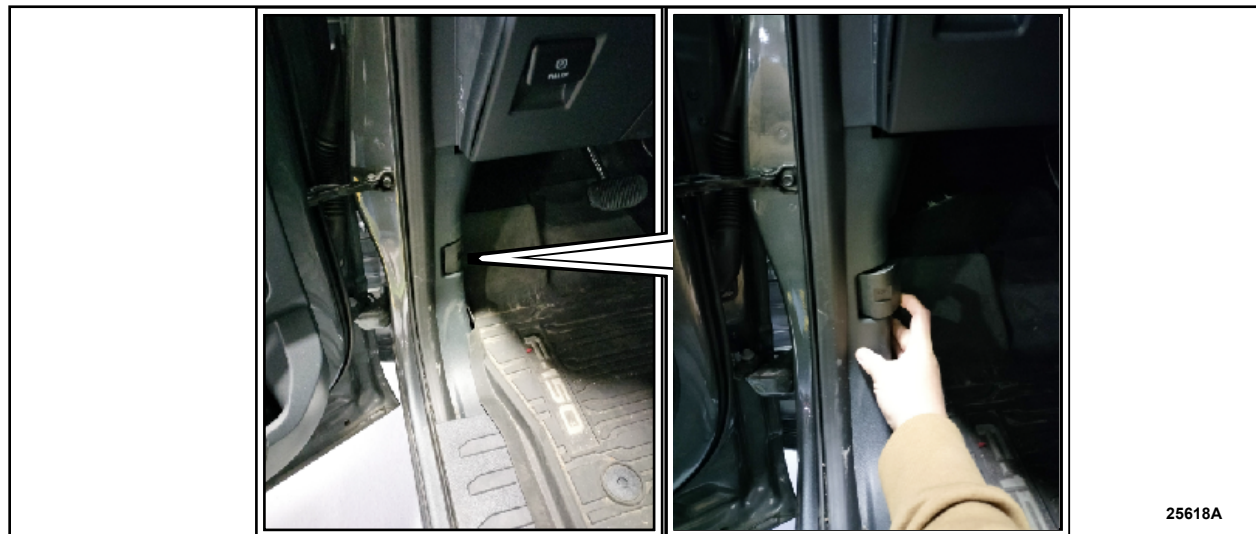

FIGURE 1
3. Pull the hood release lever and let it completely retract, as shown in Figure 1.